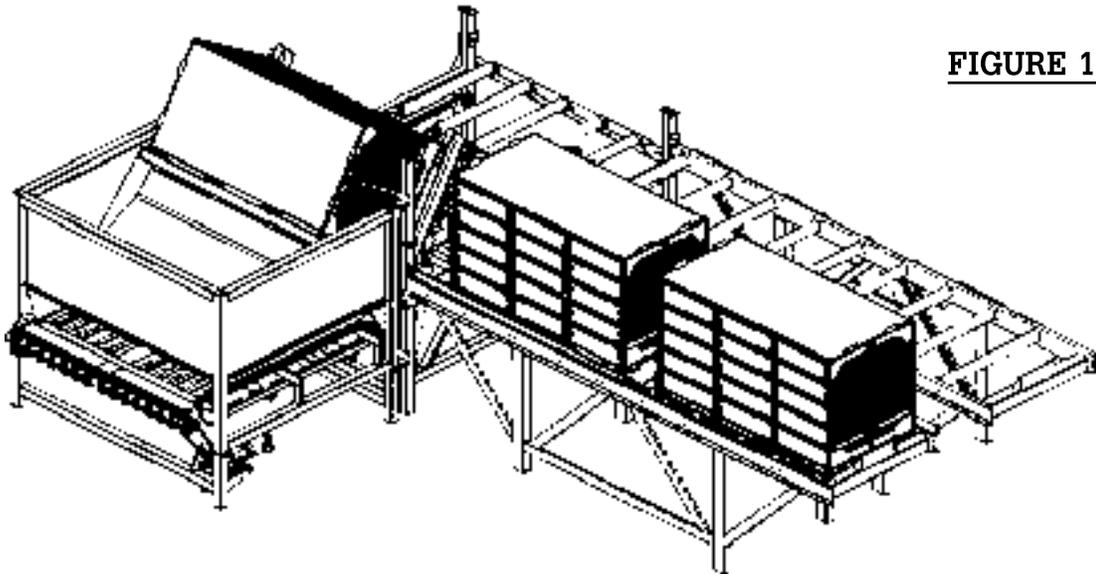

FIGURE 11
10. Pull the third (DUMPER TILT) hydraulic lever and hold it until the cradle cylinders are fully extended. The cylinders are fully extended when the cradle stops tilting upward. Then release the lever. (See Figure 11)